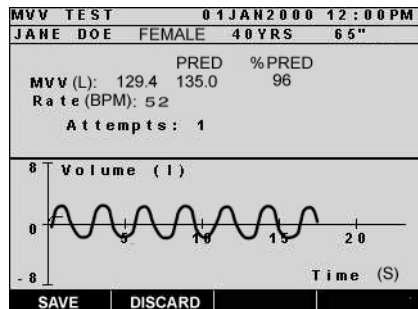

Figure 24: MVV Test Complete
6. Upon completion of the test maneuver, the spirometer will display the volume-time curve, measured, predicted, and % of predicted values, and number of maneuvers performed (Figure 24).